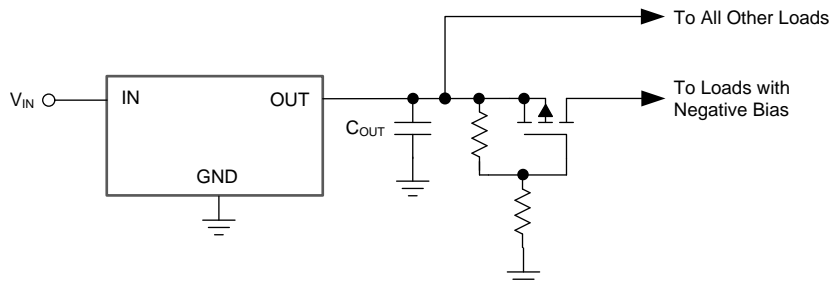

图 56. PMOSFET to Isolate the Output from the Load
- Use a PMOSFET to isolate the output of the device from the load causing the negative bias when the device is off, as shown in 图 56.